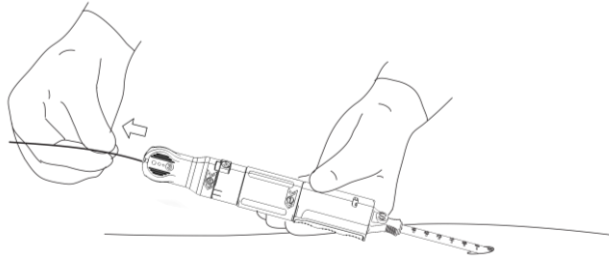

Figure 14. Removal of guidewire.
- a. Locate indicator marked '3' and remove the guidewire completely from the patient and PerQseal® closure device. Guidewire removal may be done by an assistant. Figure 14.